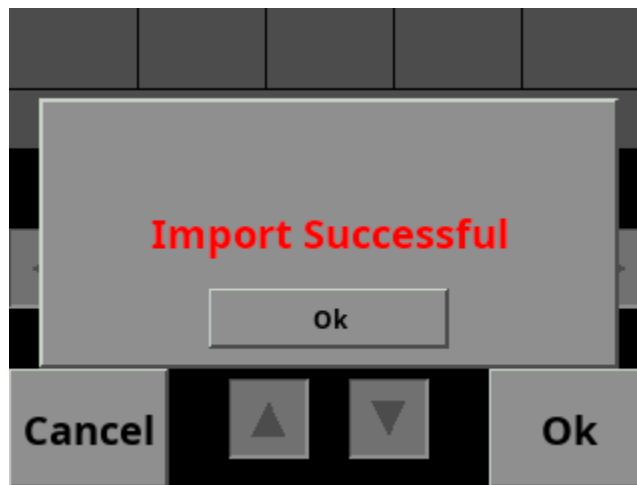

Figure 23: Import Successful Screen
- STEP 7: If the file listed is the correct file, press the Ok button to begin the import process and Figure 23 will appear. Otherwise press Cancel and return to STEP 4: